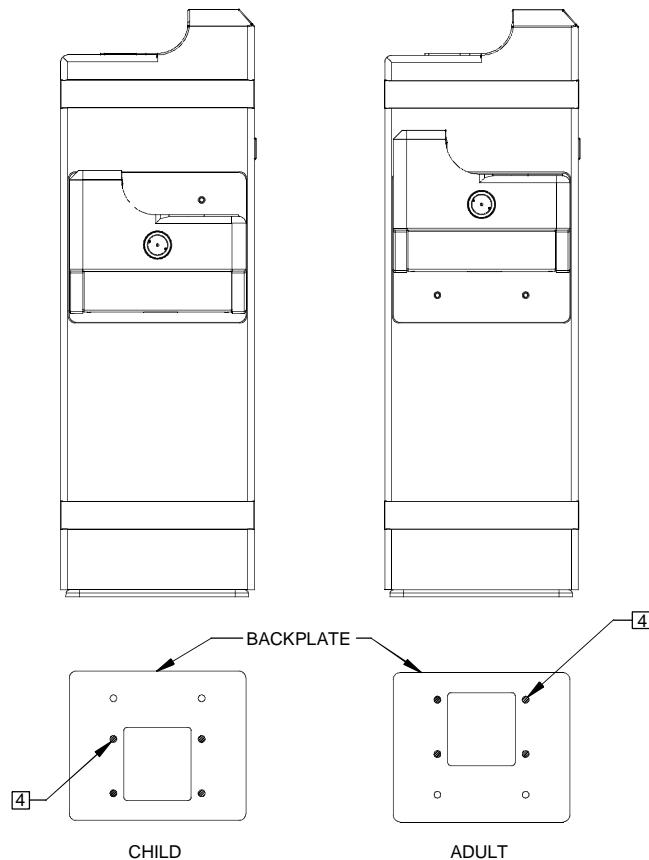

FIGURE 1
③ SIDE ARM IS ADJUSTABLE TO ACCOMODATE EITHER CHILD OR ADULT HEIGHTS (SEE "AVAILABLE ARM HEIGHTS" CHART).
④ BASED ON DESIRED HEIGHT (CHILD OR ADULT) OF ARM, ORIENT BACKPLATE AS SHOWN IN FIGURE 1 AND USE APPROPRIATE SHADED HOLES.
⑤ WASTE ASSEMBLY IS SUPPLIED DISASSEMBLED. THE SHORTER OF THE TWO PIECES IS FOR THE ARM DRAIN, AND MUST BE INSTALLED SO THAT ANY BEND IN THE FLEX TUBING WILL ALLOW WATER TO DRAIN COMPLETELY. THE LONGER IS FOR THE PEDESTAL DRAIN AND IS SUPPLIED AT THE LENGTH REQUIRED TO ASSEMBLE THE UNIT WITH THE ARM AT CHILD HEIGHT. IN ORDER TO ASSEMBLE AT ADULT HEIGHT, 3" MUST BE CUT FROM THE END OF THE FLEX TUBING PRIOR TO ASSEMBLY. TEE IS TO BE GLUED TO THE FLEX TUBING WASTE ARMS USING PVC PIPE CEMENT.